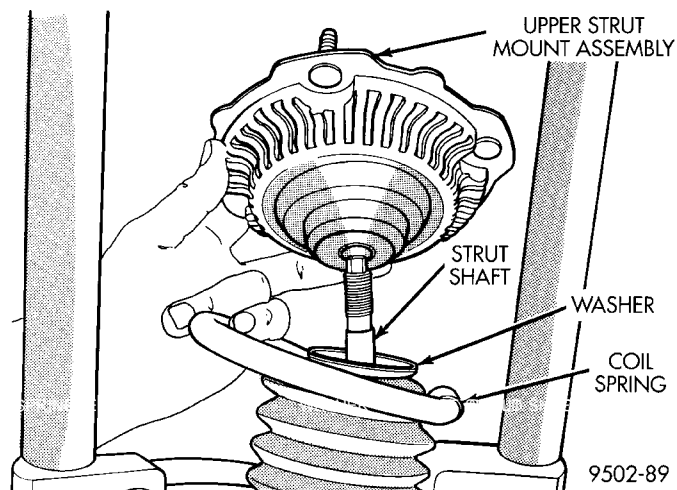

Fig. 29 Upper Strut Mount
(6) Remove upper strut mount assembly from strut shaft and spring (Fig. 29).
- (6) Install the strut assembly upper mount onto the strut shaft (Fig. 29).